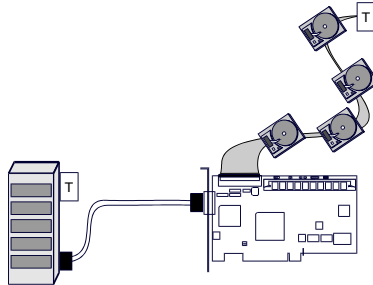

Figure 8. Connecting Internal and External Drives
8. Connect a wide, 68-pin, high-density SCSI ribbon cable to the internal SCSI connector on the AcceleRAID 150 or 250 and connect the other cable connectors to any internal SCSI drives as required (see Figure 8).
9. Connect an active terminator to the end of the SCSI ribbon cable at the end farthest from the controller (see Figure 8).
10. Connect a wide, round, 68-pin VHDCI cable to the external SCSI connector on the AcceleRAID 250 and connect the other end of the cable to an external drive cabinet as required (see Figure 8). External drive cabinets usually have termination built into the end of the SCSI bus.